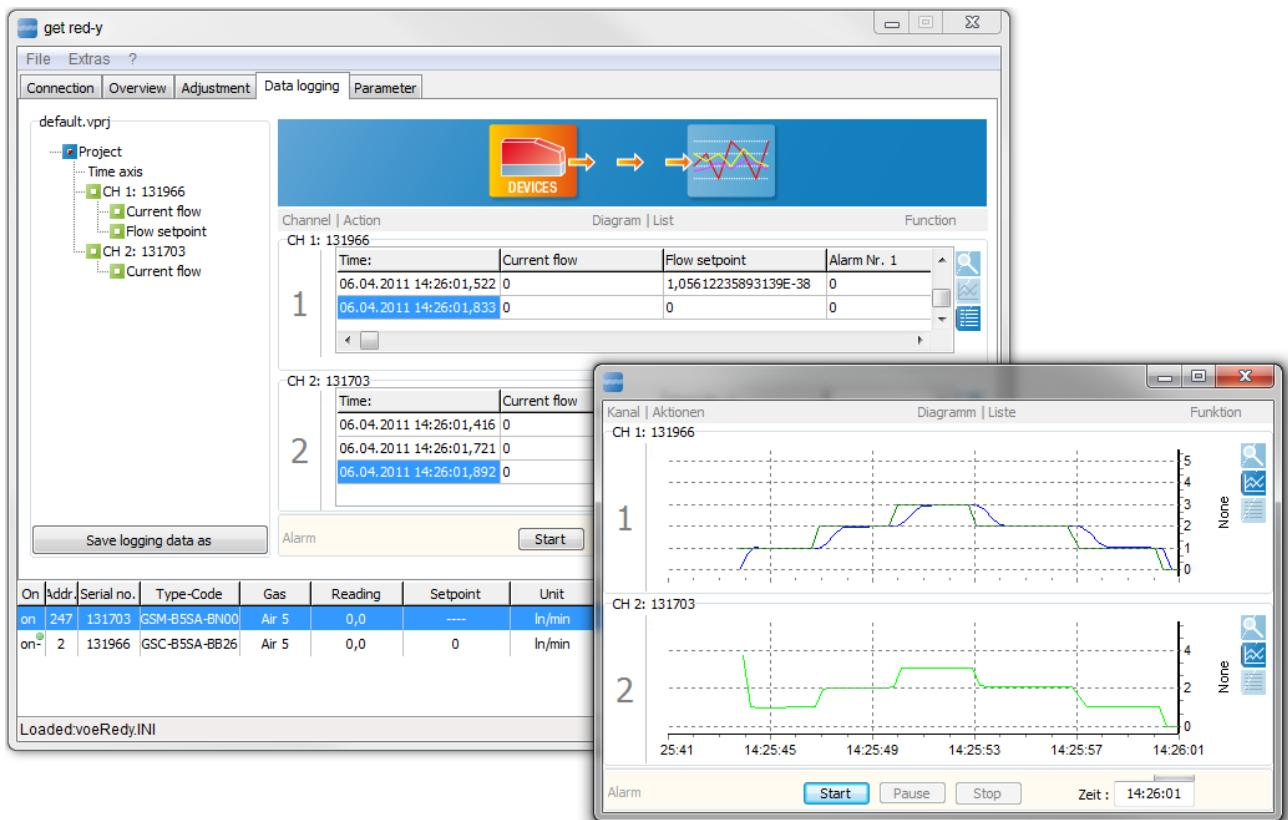

Figure 44: Representation of the measured values in tabular and graphic form
- a. The data of this channel is displayed in a separate window (See Figure 44).
- b. The data is displayed as a graph (See Figure 44).
- c. The data is represented in tabular form (See Figure 44).